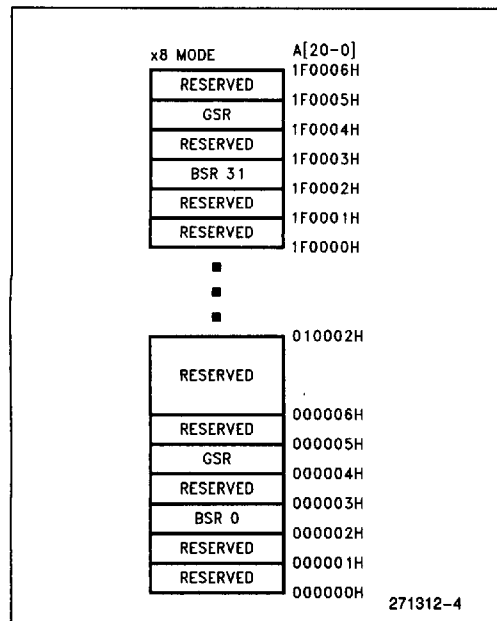

Figure 4. Extended Status Register Memory Map (Byte-Wide Mode)
1. RA can be the GSR address or any BSR address. See Figures 4 and 5 for Extended Status Register memory maps.